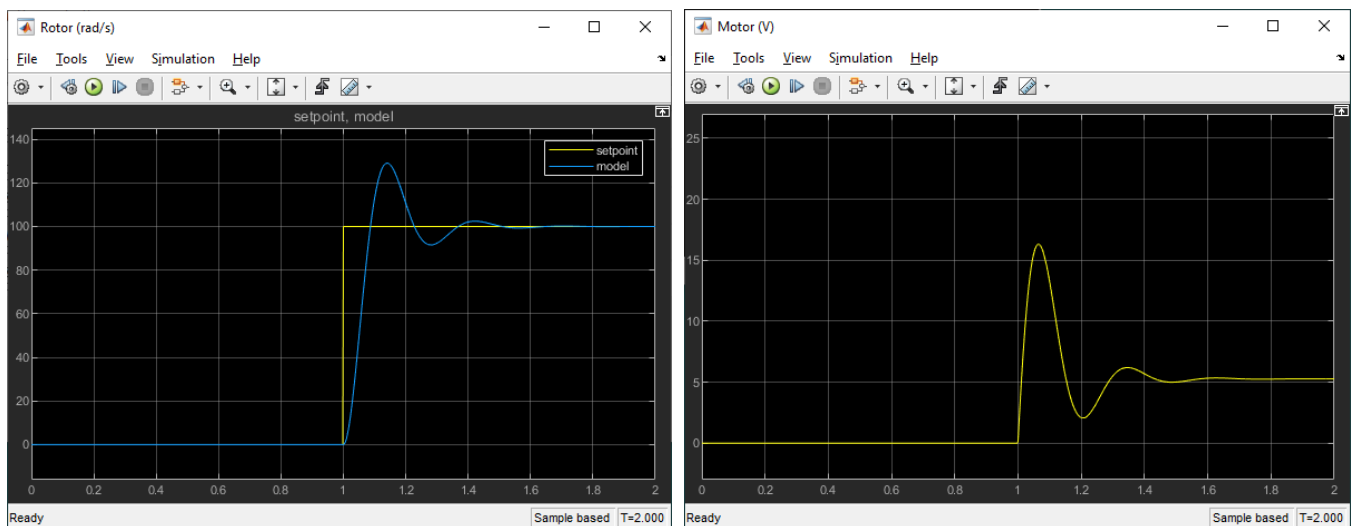

Figure 2 – Sample simulated rotor speed control response using $k_p=0.1$ and $k_i=5$.
5. Run the *s_aero2_rotor_pi* Simulink model to simulate the closed-loop response of the PI control. The response using the default PI gains $k_p = 0.1 \text{ V}/(\text{rad/s})$ and $k_i = 5 \text{ V}/\text{rad}$ is shown in Figure 2. Note that the response with the designed PI gains will be different.